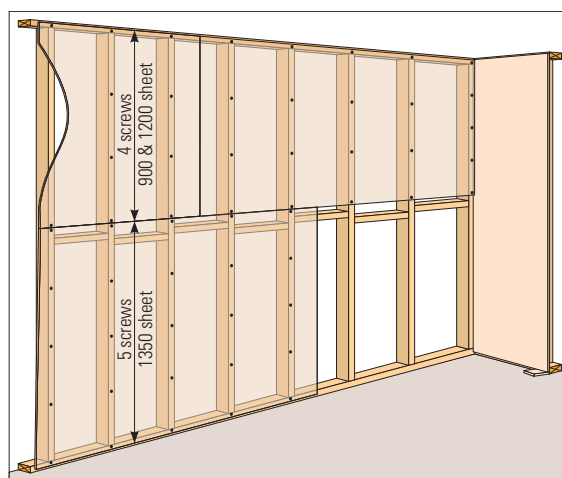

Figure 32 Screw fixing to walls
- Use Table 8 and Figure 32 for wall fastener spacings.